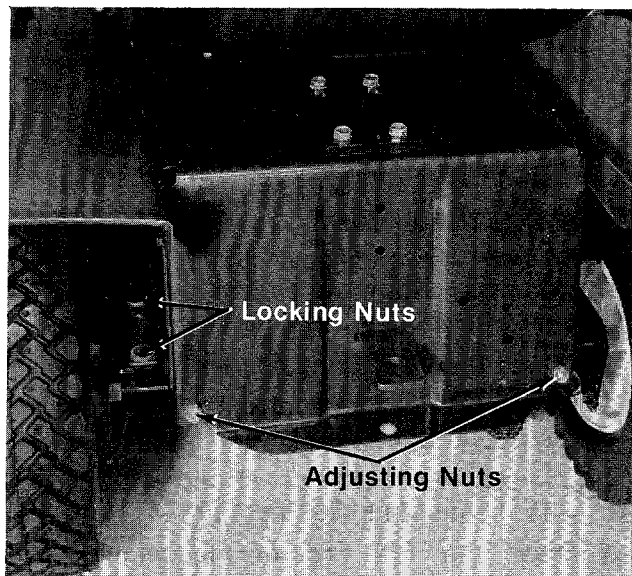

FIGURE 9.
1. To tighten the chain, loosen the two locking nuts on each side of the rear axle. See figure 9.